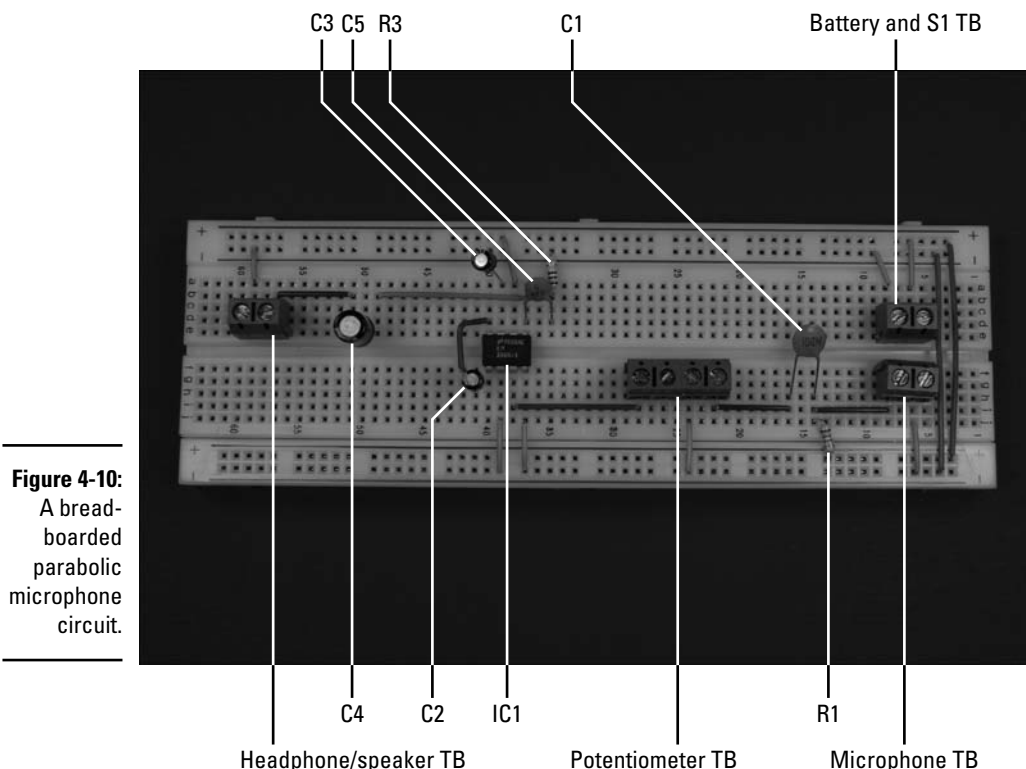

Figure 4-10:
The schematic shown earlier in Figure 4-6 is shown translated onto a breadboard in Figure 4-10. You don't see the potentiometer, microphone, battery, switch, or speaker on the breadboard because these are connected through wires attached to the five terminal blocks (TB). The sole purpose of a *terminal block* is to provide a place where you can attach wires to your circuit board by inserting them into holes and using a screw to clamp them down.